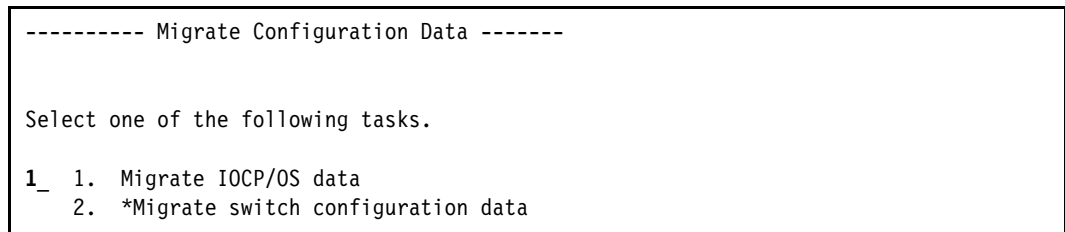

Figure 6-110 HCD - Migrate Configuration Data: migrate IOCP/OS data.
- From the Migrate Configuration Data panel (Figure 6-110), select option **1. Migrate IOCP/OS data** and press Enter.